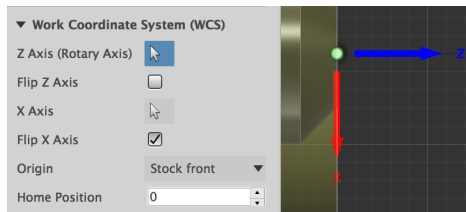

FIGURE 1.11: FLIPPED X-AXIS.
- Flip your X-axis under Work Coordinate System by checking the box so that it matches Figure 1.11.